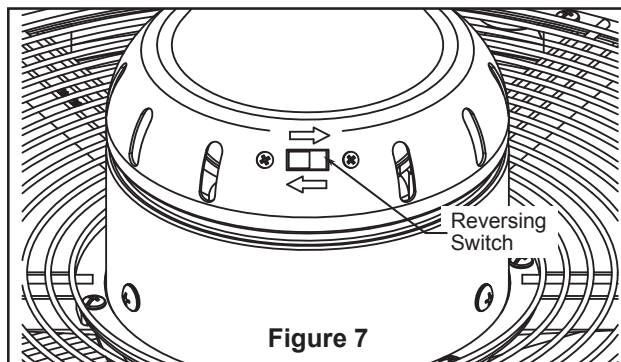

Figure 7
7. If airflow is desired in the opposite direction, turn the fan off and wait for the blades to stop turning. Slide the reverse switch on top of motor assembly to the opposite position and turn fan on again. (Figure 7)